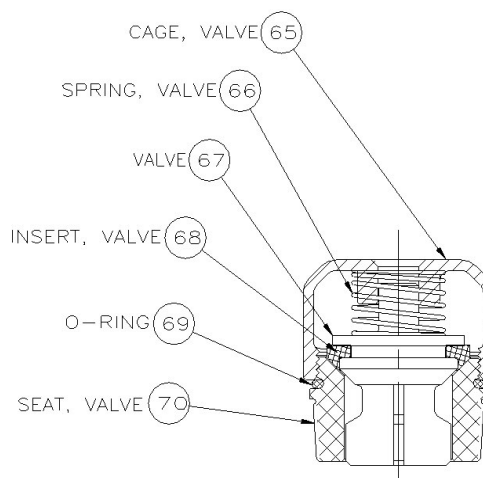

Fig. 6
- A. First remove valve caps, (61) and cylinder caps, (72) which provide access to suction and discharge valves. Remove the stainless steel cage which serves as a valve guide and spring retainer. Remove cage (65), spring (66), and valve (67), from the pump fluid end. (Fig. 6)
- B. Reassemble valve, spring, and cage as shown in Fig. 6. Be sure that springs are in correct location. When upper and lower valve seats are the same size, the heavier spring (larger diameter wire) is always installed on upper or discharge valve.